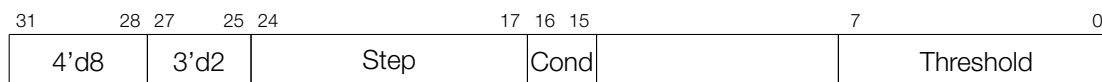

Figure 30-10. Instruction Type — JUMP
**Operand Description** - see Figure 30-10